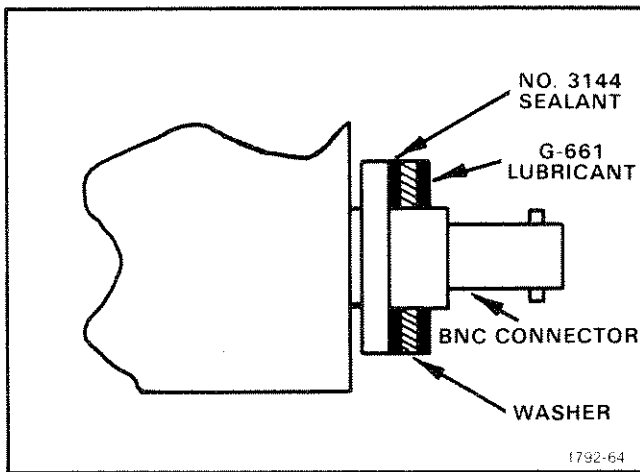

Fig. 5-10. Detail of BNC Connector and Washer.
**10. Bonding of washer to BNC type connector that is located on the Main Circuit Board Assembly (see Fig. 5-10)**